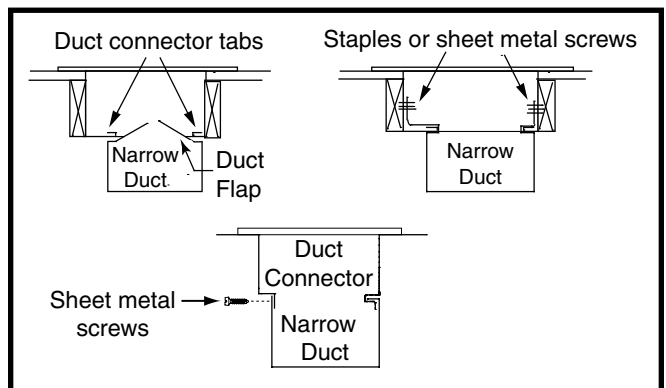

Figure 12. Narrow Ducts
- Bend the tabs on the bottom of the duct connector upwards and as tight as possible against the supply air duct. See Figure 12 (page 7).